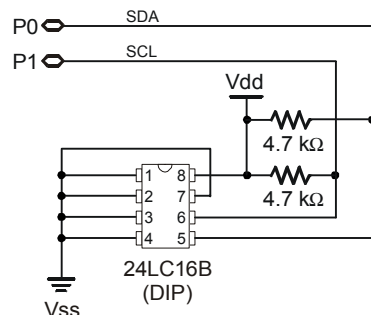

Figure 5.11: Example Circuit for the I2COUT command and a 24LC16B EEPROM.
The above example will write a byte of data to location 5 of a 24LC16B EEPROM from Microchip. Figure 5.11 shows the proper wiring for this example to work. The *SlaveID* argument (\$A0) is both the ID of the chip and the command to write to the chip; the 0 means write. The *Address* argument (5) is the EEPROM location to write to.